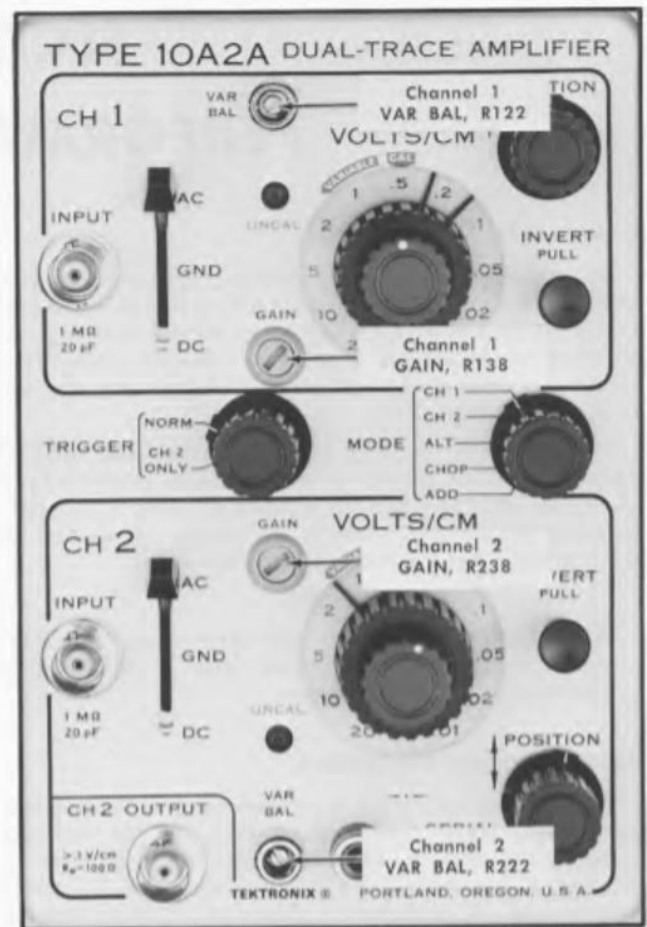

Fig. 5-1. Location of channel 1 VAR BAL control, R122 and channel 2 VAR BAL control, R222.
a. Adjust the Channel 1 VAR BAL control R122 (see Fig. 5-1), to position the displayed trace at the graticule center horizontal line.
c. **ADJUST**—VAR BAL control R122 (see Fig. 5-1). Set the VARIABLE (VOLTS/CM) control fully counterclockwise and note the trace position. Then rotate the control to the CAL position and again note the position of the trace.
- b. Adjust the Channel 2 VAR BAL control R222 (see Fig. 5-1), to position the displayed trace at the graticule center horizontal line.
- d. **ADJUST**—VAR BAL control R222 (see Fig. 5-1). Set the VARIABLE (VOLTS/CM) control fully counterclockwise and note the trace position. Then rotate the control to the CAL position and again note the position of the trace.
- e. Rotate the Type 10A2A channel 1 front-panel GAIN control (see Fig. 5-1) from one extreme to the other.
- g. **ADJUST**—Channel 1 GAIN control, R138 (see Fig. 5-1) for a display exactly 5 cm high.
- b. Rotate the Type 10A2A channel 2 front-panel GAIN control (see Fig. 5-1) from one extreme to the other.
- d. **ADJUST**—Channel 2 GAIN control, R238 (see Fig. 5-1) for a display exactly 5 cm high.
g. ADJUST—Channel 2 GAIN control R238 (see Fig. 5-1), until the display consists of only a single trace, i.e., the channel 1 and 2 signals have completely cancelled each other.